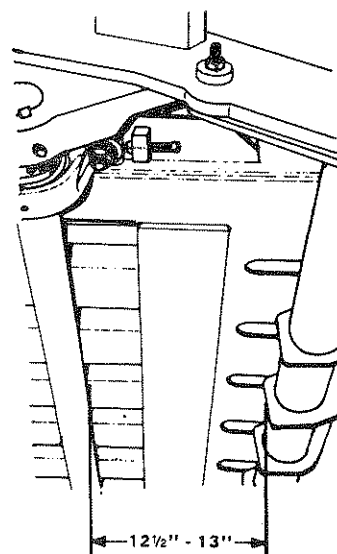

Fig. 40
12. Measure from rear side of feed fork crankshaft to front side of feed fork tine mounting tube, see Fig. 40. When the feed fork is at its highest point of travel in the chamber, the measurement should be 12½ to 13 inches when switch arm roller is on the high part of the cam.